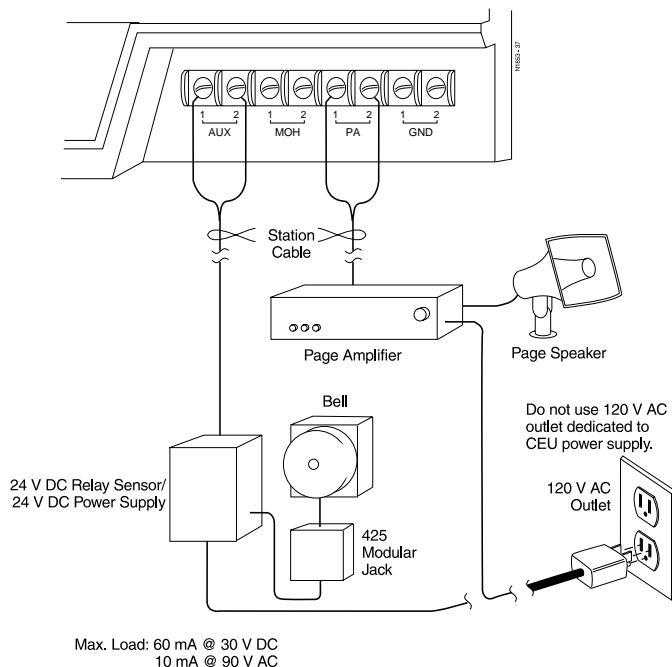

FIGURE 15
1. Install the paging system/relay sensor per manufacturer's instructions. **Caution:** The paging system must not exceed the system's paging input specifications. Some paging systems may require the installation of a matching transformer. See Figure 15.